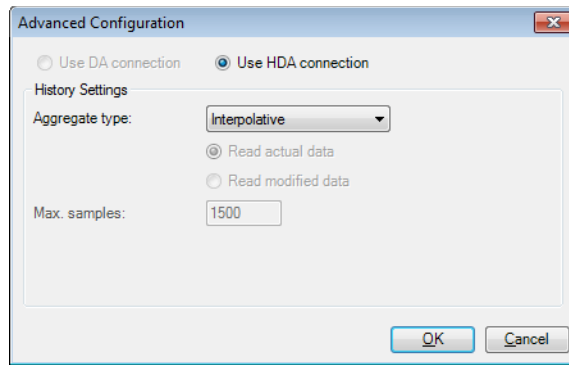

Figure L1.8 - HDA Selection
11. Click the pen's Advanced Configuration button to open the dialog box shown in Figure L1.8, and select the Use HDA Connection option. Then click OK. (By default this is set automatically when you select Historical data.)